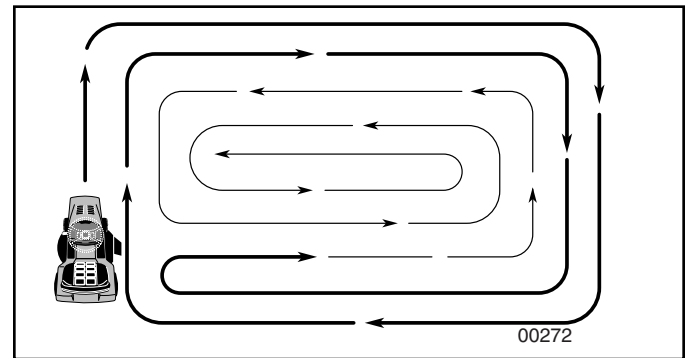

FIG. 7
- When mowing large areas, start by turning to the right so that clippings will discharge away from shrubs, fences, driveways, etc. After one or two rounds, mow in the opposite direction making left hand turns until finished (See Fig. 7 ).